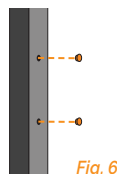

Fig. 6
- Posts are pre-drilled on 3 sides allowing for linear (Fig. 5) or 90° corner (Fig. 6) configurations.
6. Once fencing is finished, insert **Post Hole Plugs** into unused post holes to help prevent water leaking into posts (Fig. 6).